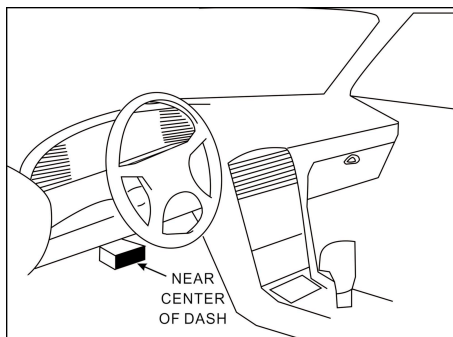

Figure 2-2
2. Locate vehicle's DLC socket: it provides standard 16 pins and is generally located on driver's side, about 12 inch away from the center of dashboard. See Figure 2-2. If DLC is not equipped under dashboard, an label indicating its position will be given. In case no DLC is found, please refer to Automobile Repair Manual.